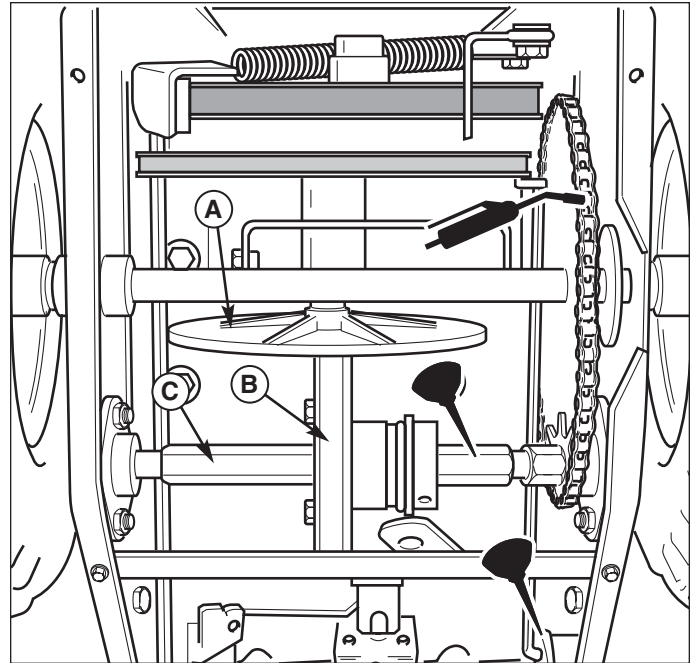

Figure 15. Drive Area Lubrication Points (Bottom Cover Removed)
Apply medium weight (10W) oil to points shown (See Figures 15 - 18).
Apply 5W-50 synthetic motor oil to the friction disc hex shaft (see Figure 15).
1. After 5 hours of use, check for proper adjustment. Readjust clutch cable if necessary by increasing tension on cable. A small amount of bellcrank arm movement is permissible if unit passes operating checks described in the Caution at left. **Optimal adjustment provides 3/16" clearance between traction drive disc and rubber ring on friction disc when drive lever is released** (see Figure 15 for friction disc location).